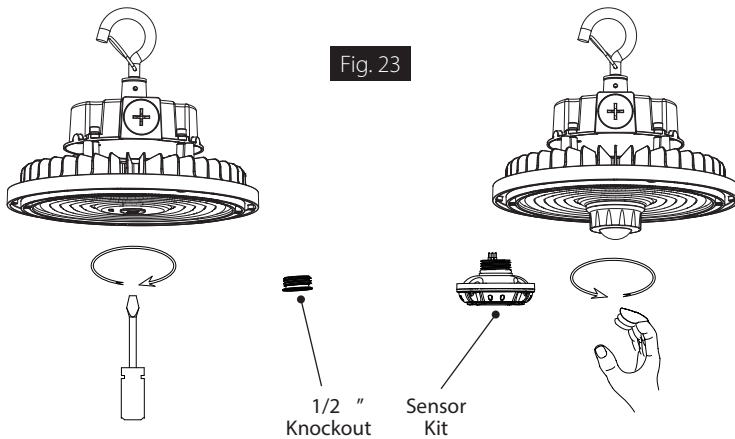

Fig. 23
3. Remove the 1/2" Knockout with a screwdriver and install the Sensor Kit onto fixture (Fig. 23) as per sensor kit instructions.